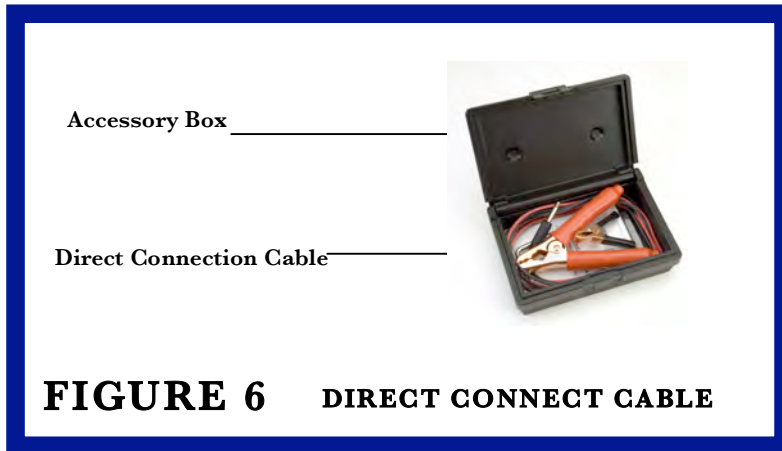

FIGURE 6 DIRECT CONNECT CABLE
- a) **Direct Connection Cable (DCC). (Figure 6)** This cable is used to conductively energize a metallic line. The plug is inserted into the DCC jack of the 3300 transmitter (see Figure 3). The red heavy-duty clamp may be used to establish a ground, if necessary.